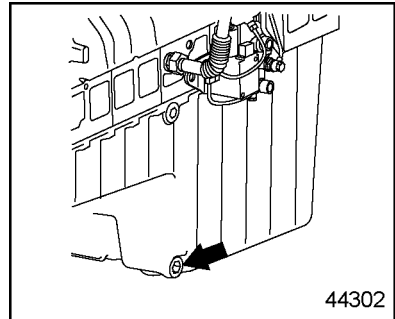

Figure 34 Engine Oil Drain Plug, Oil Pan
- [b] Carefully unscrew the oil drain plug on the oil pan and allow the oil to drain out (See Figure 34).